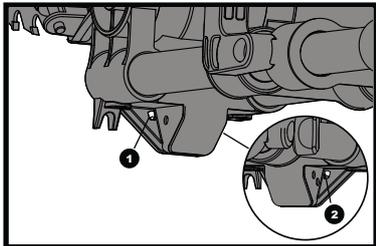

Fig 19
Carefully remove the laser housings plastic window by pushing the two attachment lugs(1) from the rear. This will enable access to the laser module. (See fig. 19)